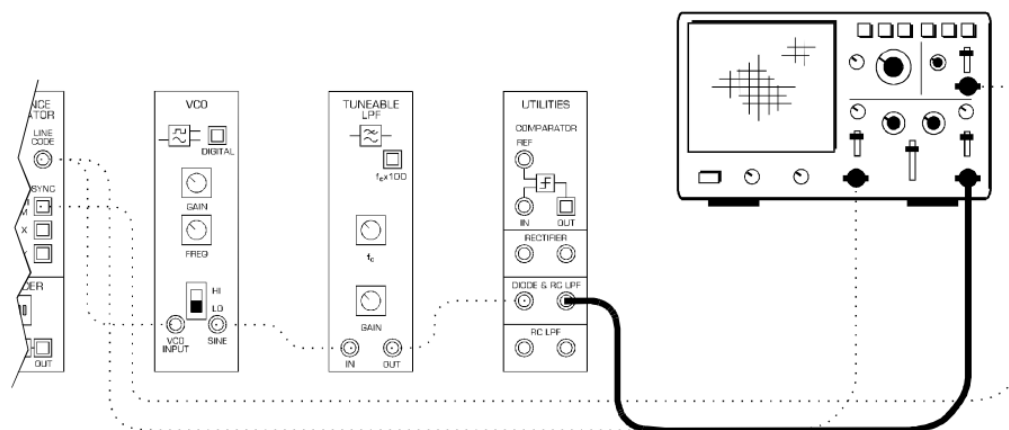

Figure 27:
19. Connect the scope's Channel 2 input to the envelope detector's output as shown in Figure 27. Compare the original digital signal with the recovered digital signal. Sketch them on your logbook or print out the scope screen.